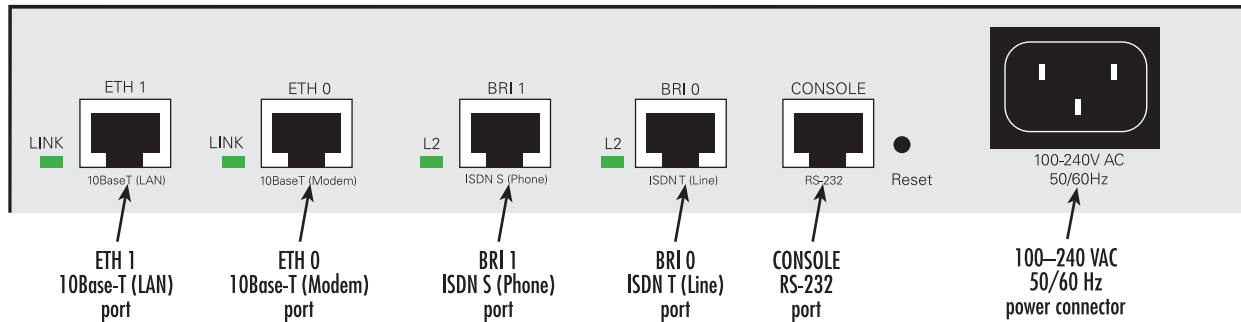

Figure 36. SmartNode 1200 connectors
1. Installing the 10Base-T Ethernet cable into ports *ETH 0* and *ETH 1* (see figure 36) (see “Installing the Ethernet cables” on page 67).
1. Insert the barrel type connector end of the AC power cord into the 100–240 VAC power connector (see figure 36).